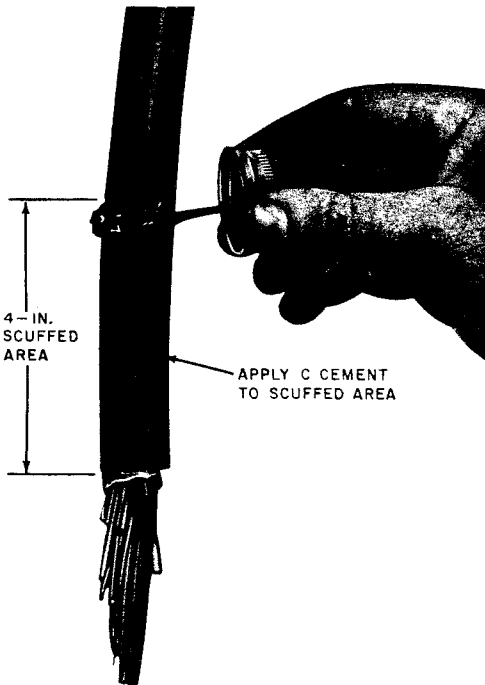

Fig. 7—Applying C Cement
- (5) ▶Apply a coating of C Cement to the scuffed area (Fig. 7). This will prevent water migration between the cable sheath and the encapsulant.▶